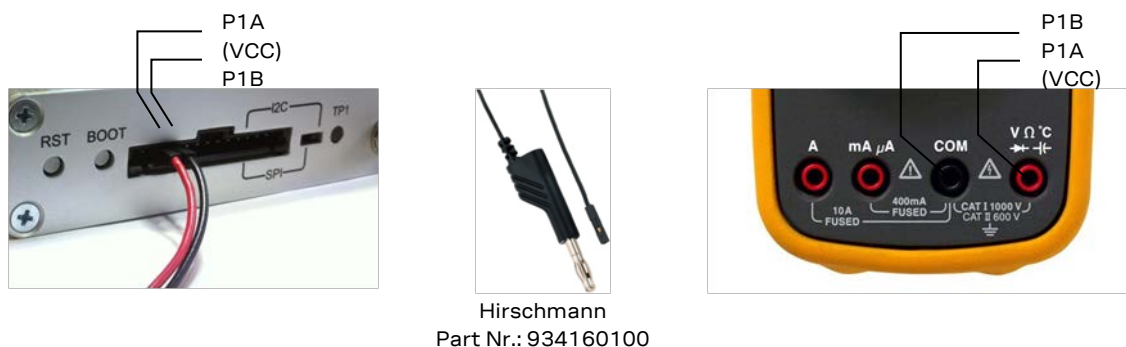

Figure 5: Example – tracking current measurement
1. Connect a true RMS voltmeter across P1A (VCC) and P1B of the front connector. (see Figure 5)